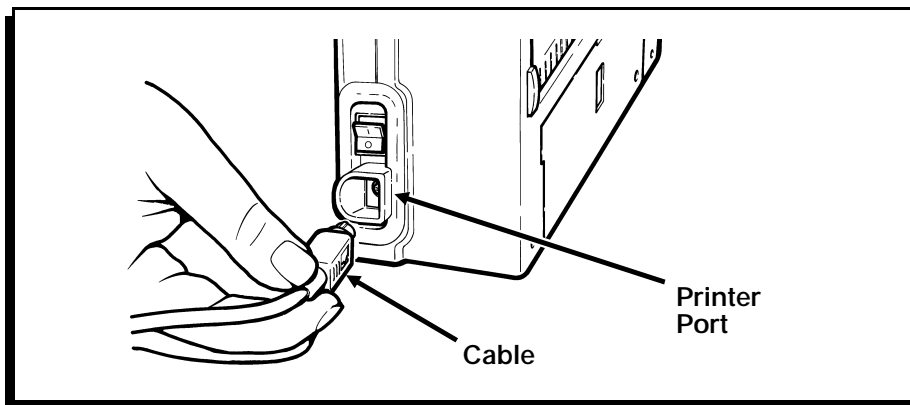

Figure 20
4. The communication cables for the printers are located inside the Station's cable tube. Insert the communication cable into the printer port as shown. (Figure 20.)